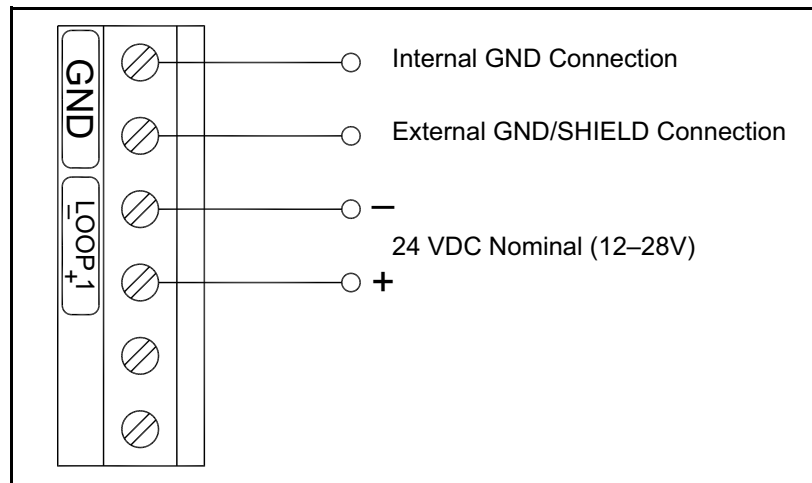

Figure 7: Electrical Connections – One Current Loop
To wire the MMR31, refer to *Figure 7* below and complete the following steps:
5. Connect the wires to the MMR31 terminals as shown in *Figure 7* below.